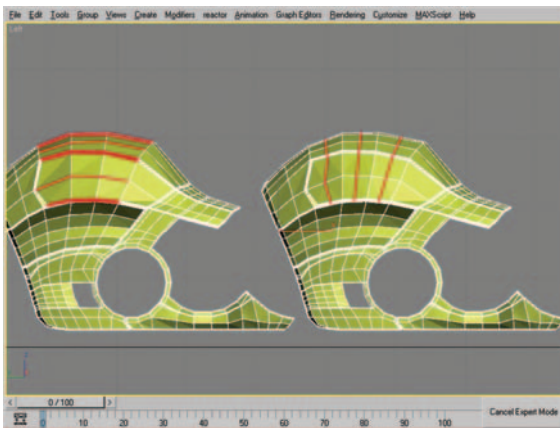

Figure 8.79 Edge selection before and after using Connect.
1. Select the edges seen in Figure 8.79 (left) and use Connect to create the three new rows of edges seen in Figure 8.79 (right).